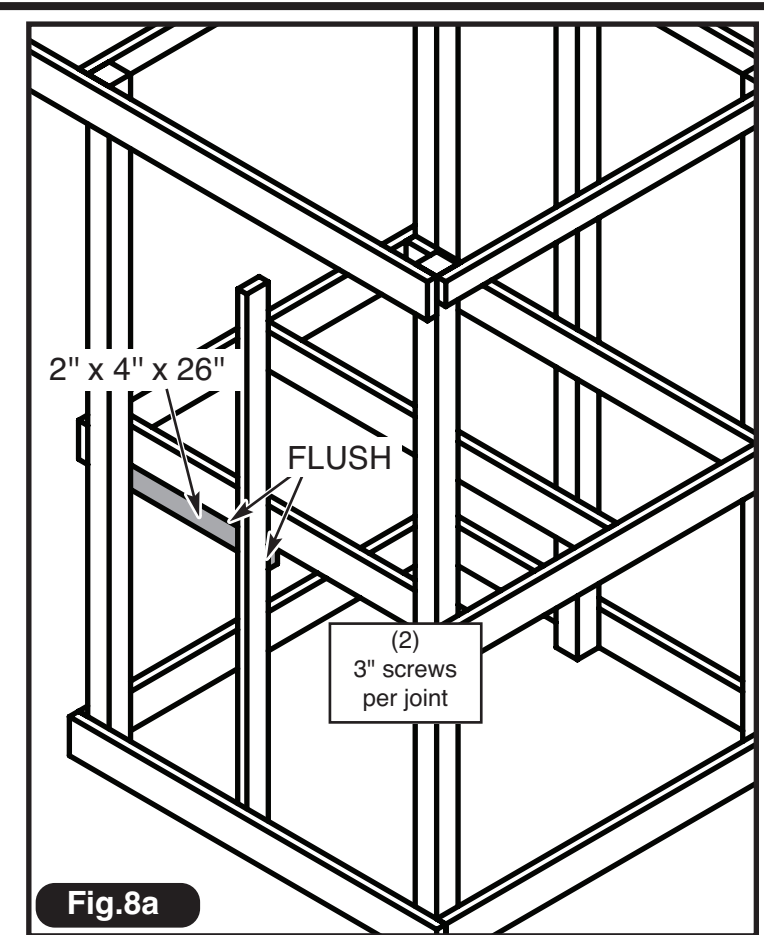

Fig.8a
2. Install 2" x 4" x 26" Ladder Spacer Board as shown in (Fig. 8a).